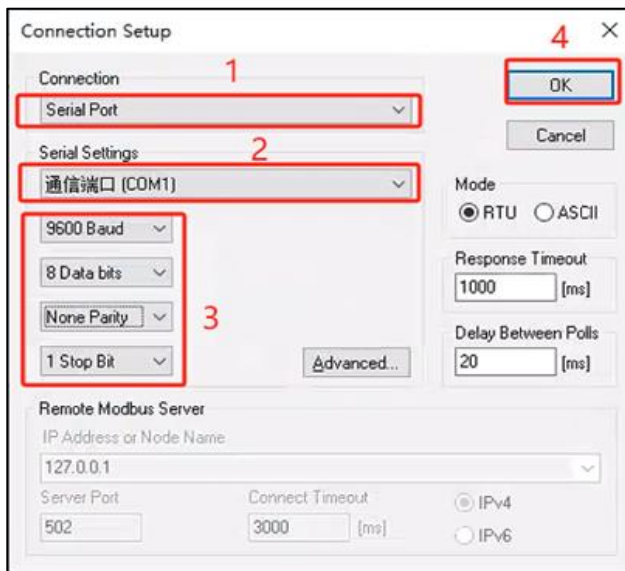

Figure 1
■ Connection Setup (As shown in figure 1)